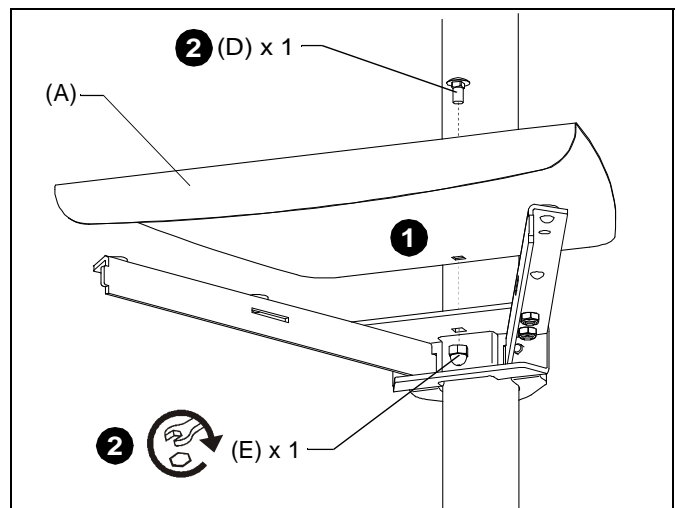

Figure 3
1. Align square mounting hole in shelf (A) with mounting hole in top of shelf base (B1 or B2). (See Figure 3)
2. Secure shelf (A) to shelf base (B1 or B2) using one carriage bolt (D) and one lock nut (E). (See Figure 3)